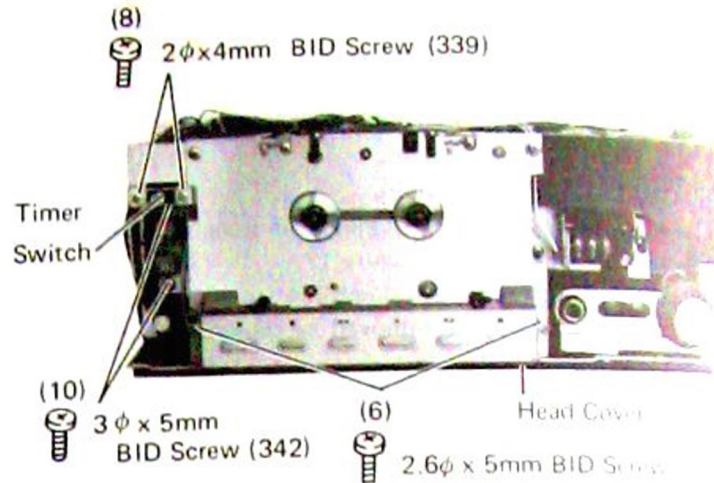

Figure 21
1. Remove two screws (6) holding the head cover as shown in Figure 21.
1. Remove two screws (8) holding the timer switch as shown in Figure 21.
3. Remove two screws (10) and one screw (11) holding the power supply P.C. Board (2/2) as shown in Figure 21 and 23.